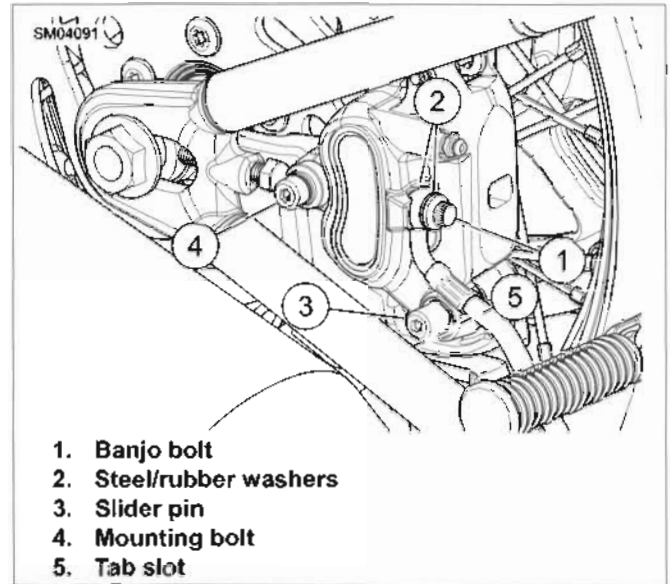

Figure 2-56. Rear Caliper
1. See Figure 2-56. Remove the banjo bolt (1) and both steel/rubber washers (2) to detach rear brake line from caliper. Discard washers.
2. Remove both the slider pin (3) and mounting bolt (4) (metric). Remove caliper assembly from brake disc.
3. See Figure 2-56. Install caliper with pads on caliper mount. Tighten slider pin (3) and mounting bolt (4) (metric) to 16-20 ft-lbs (21.7-27.1 Nm). Verify tabs on brake pads engage slot (5) in caliper mount.